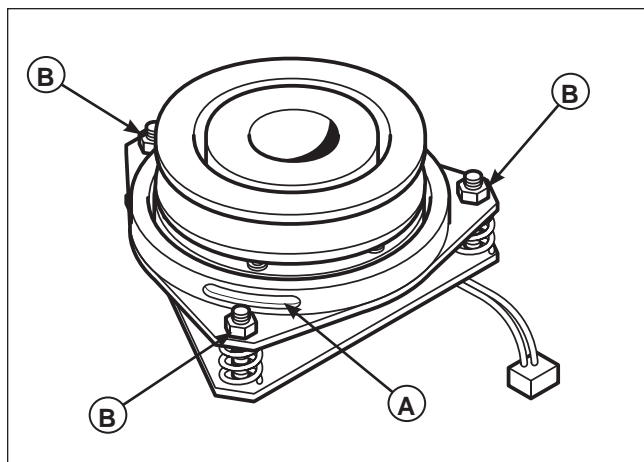

Figure 49. PTO Clutch Adjustment
2. See Figure 49. Note the position of the 3 adjustment windows (A) in the side of the brake plate and the nylock adjustment nuts (B).